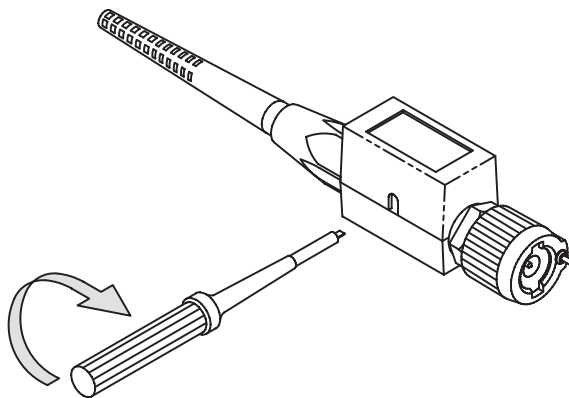

Figure 3: P6106A Probe Trimmer Adjustment
3. Adjust the trimmer in the probe (refer to Figure 3) until you see a flat-top square wave on the display.